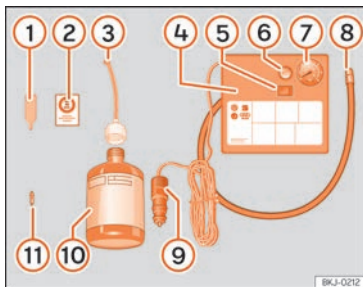

Fig. 32 Standard representation: anti-puncture kit contents.
The anti-puncture kit is located underneath the floor covering in the luggage compartment. It includes the following components » Fig. 32:
- Unscrew the tyre valve cap and insert. Use the » Fig. 32 ① tool to remove the insert. Place it on a clean surface.
- Shake the tyre sealant bottle vigorously » Fig. 32 ⑩.
- Screw the inflator tube » Fig. 32 ③ into the sealant bottle. The bottle's seal will break automatically.
- Remove the lid from the filling tube » Fig. 32 ③ and screw the open end of the tube into the tyre valve.
- Place the insert back into the tyre valve using the tool » Fig. 32 ①.
- Screw the compressor tyre inflator tube » Fig. 32 ⑧ into the tyre valve.
- Check that the air bleed screw is closed » Fig. 32 ⑥.
- Insert the connector » Fig. 32 ⑨ into the vehicle's 12-volt socket » page 145.
- Turn the air compressor on with the ON/OFF switch » Fig. 32 ⑤.
- Attach the sticker »» Fig. 32 ② to the instrument cluster, within the driver's visual field.
Screw the inflator tube »» Fig. 32 ⑤ again and check the pressure on the gauge ⑥.